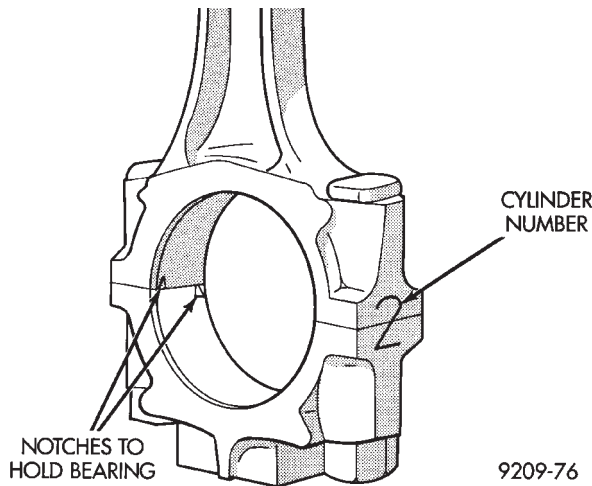

Fig. 95 Connecting Rod and Cap
(9) Check alignment marks made during disassembly and that bearing position notches new or used are on the same side as shown in (Fig. 95).
(10) Install cylinder head(s) and oil pan. Refer to procedures in this section.